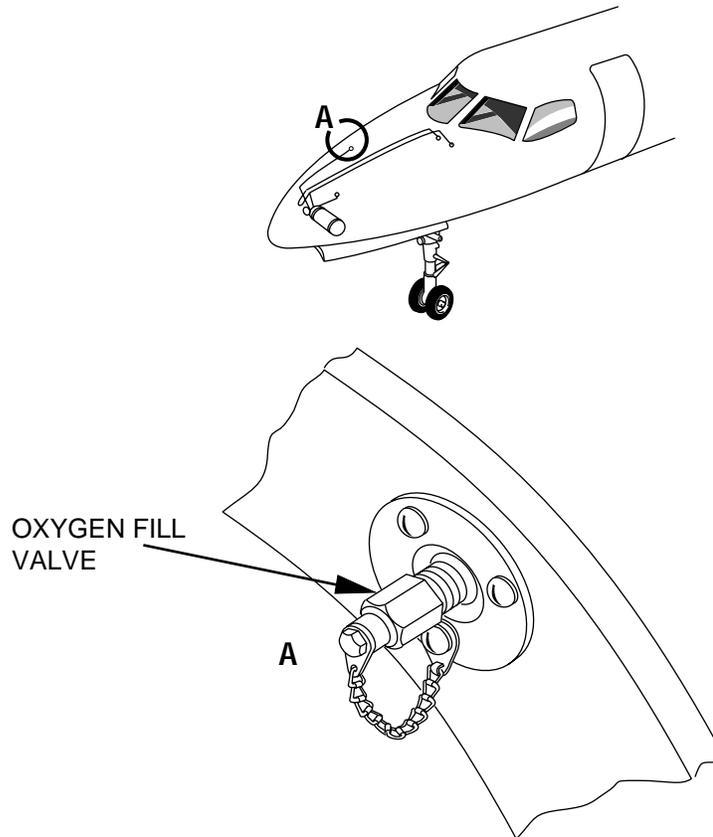

FIGURE 1-11
1. Open the right nose baggage door and locate the filler valve on the forward upper corner of the door frame (See Figure 1-11).